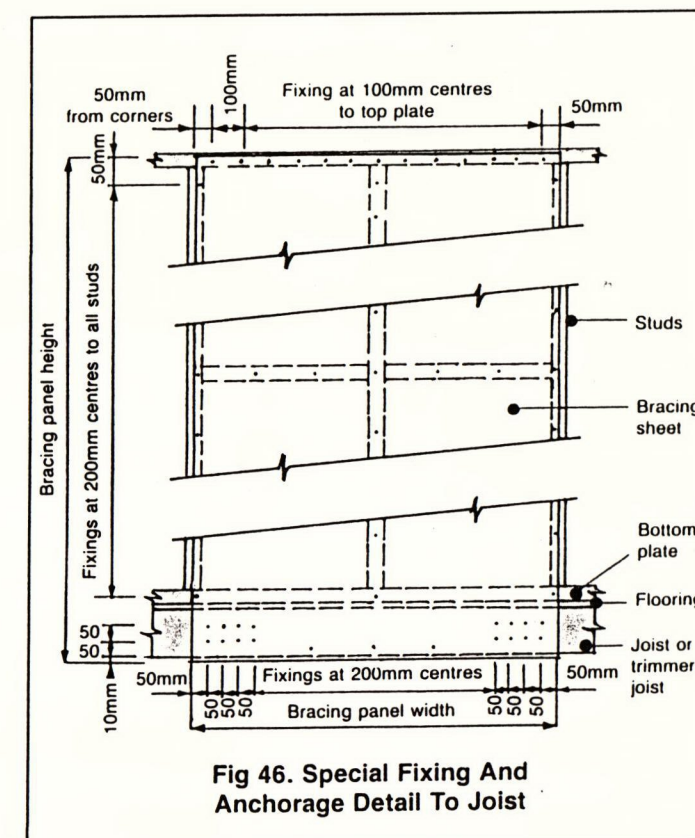

Fig 46. Special Fixing And Anchorage Detail To Joist
- Hardiflex and Hardipanel have been tested as sheet bracing fixed with 40mm x 2.5mm Hardiflex nails at standard 200mm centres to all framing (Refer Table 1) and for special nailing conditions to give enhanced bracing ratings. (Refer Tables 2 and 3 and Figs 46 and 47)
TABLE 2: HARDIFLEX AND HARDIPANEL BRACING RATINGS SPECIAL FIXING (Refer Fig. 46)
NOTES FOR FIG. 46